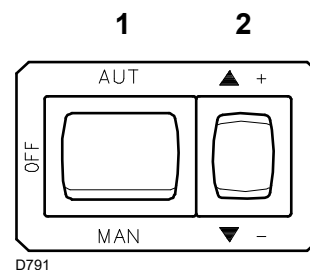
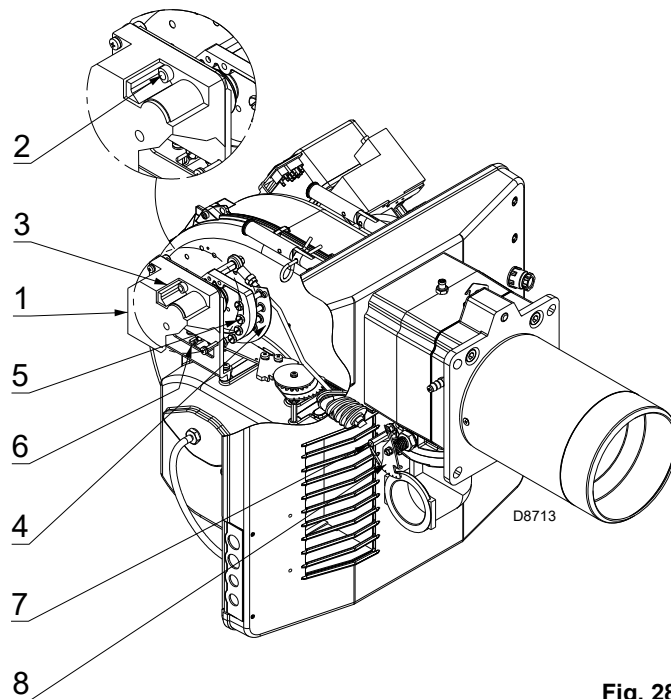
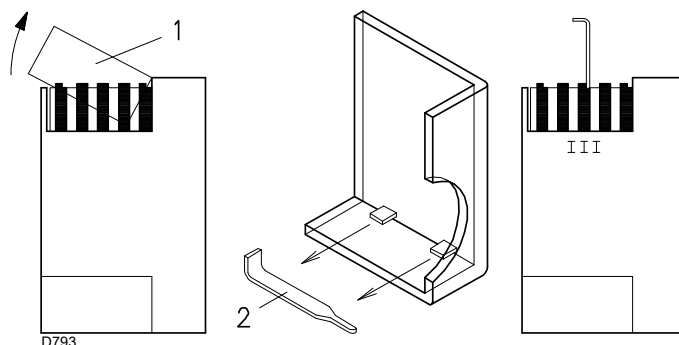

Fig. 27
Fig. 28
Fig. 29
Close the thermostats/pressure switches and turn the switch of Fig. 27 to position "MAN".
Now press the button 2)(Fig. 27) "output increase", and keep it pressed until the servomotor has opened the air damper and the gas butterfly valve at 90°.
Progressively adjust the end profile of cam 4)(Fig. 28) by turning the cam adjustment screws as they are visible through the access opening 6 (Fig. 28).
Press the button 2 (Fig. 27) "output reduction", and keep it pressed until the servomotor has closed the air damper and the gas butterfly valve at 15° (adjustment made in the factory).
- If it is necessary to reduce it, reduce slightly the angle of cam III (Fig. 29) with small, regular movements, i.e. bring it from an angle of 15° to 13° - 11°....
- If it is necessary to increase it, press slightly the button "output increase" 2)(Fig. 27) (open by 10-15° the gas butterfly valve), increase the cam III angle (Fig. 29) with small, regular movements, i.e. bring it from an angle of 15° a 17° - 19°....
If it is necessary to adjust cam III, remove the cover 1)(Fig. 29), inserted with a trigger catch, as indicated in Fig. 29, extract the special key 2)(Fig. 29) from inside, and insert it in the notch of cam III.
Progressively adjust the end profile of cam 4)(Fig. 28) by turning the cam adjustment screws as they are visible through the access opening 6)(Fig. 28).
Press the key 2)(Fig. 27) "output increase" a little so that a new screw 5)(Fig. 28) appears in the opening 6)(Fig. 28), adjust it until optimal combustion is obtained. Proceed in the same way with the other screws.
Switch the burner off with switch 1)(Fig. 27), OFF position. Release the adjustable profile cam by setting the servomotor slot 2)(Fig. 28) in a vertical position and check several times that by rotating the cam forwards and backwards by hand, the movement